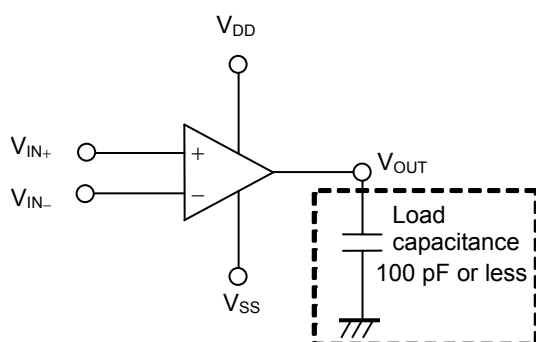
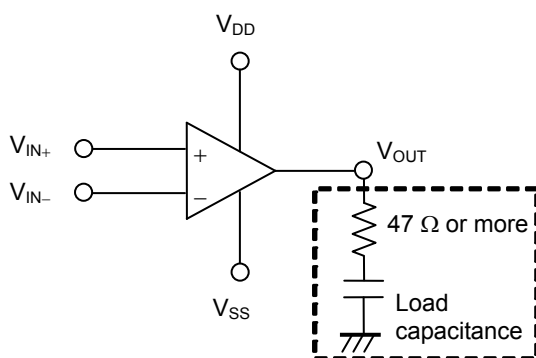
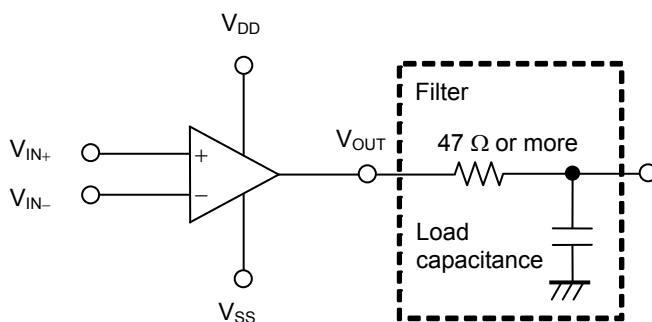

Figure 14
Figure 15
Figure 16
- This IC operates stably even directly connecting a load capacitance 100 pF or less to the output pin, as seen in **Figure 14**. When using a load capacitance 100 pF or larger, set a resistor 47 Ω or more, as seen in **Figure 15**. In case of connecting a filter for noise prevention, and using a load capacitance 100 pF or more, also set a resistor 47 Ω or more as seen in **Figure 16**.